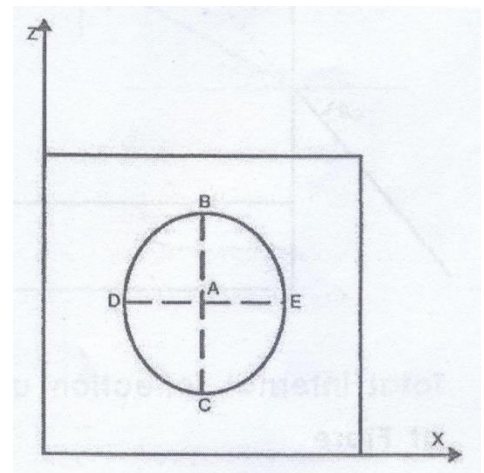

Fig 6.7 Measurement of radius
- Measure the diameter of the circular patch of red light in two perpendicular directions (BC and DE in fig 6.7). The mean radius of the circular patch is given by  $r = \frac{DE+BC}{4}$